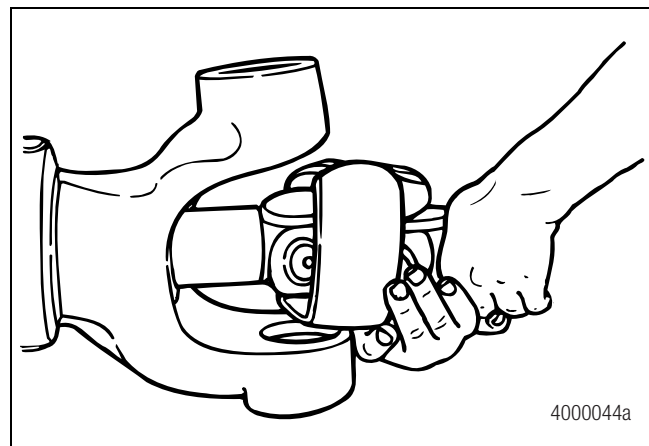

Figure 4.9
11. Pull the universal joint and drive shaft assembly straight from the carrier housing. Figure 4.9.